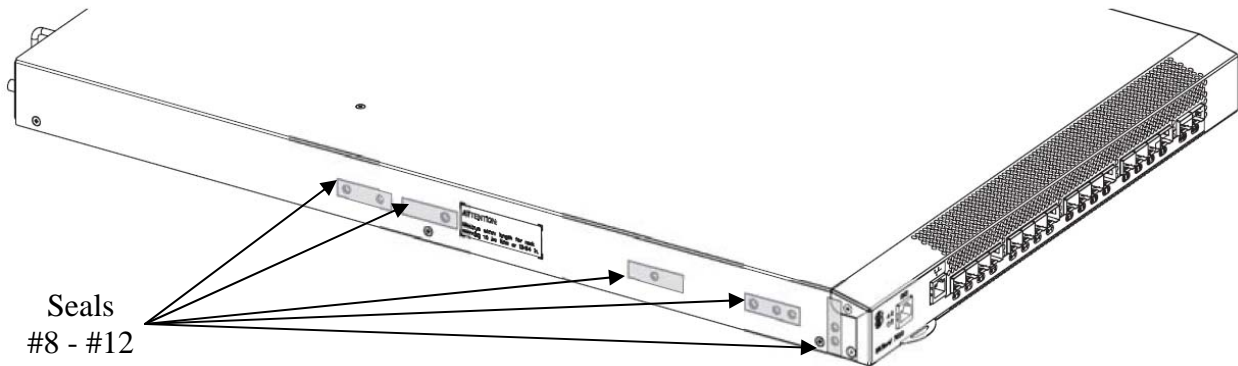

Figure A.2 –Left Side Seal Locations
1. Attach four (4) seals (#8 - #12) oriented horizontally covering the seven (7) rail mounting screw holes on the left side of the enclosure. Ensure that all of the holes are completely covered. Working front to back, the first seal covers three holes, the second seal covers one hole, the third seal covers one hole, and the fourth seal covers two holes. Be sure the third seal does not cover any of the “Attention:” label. Attach one (1) seal oriented vertically covering the two holes near the front of the left side of the switch. Reference Figure A.2.